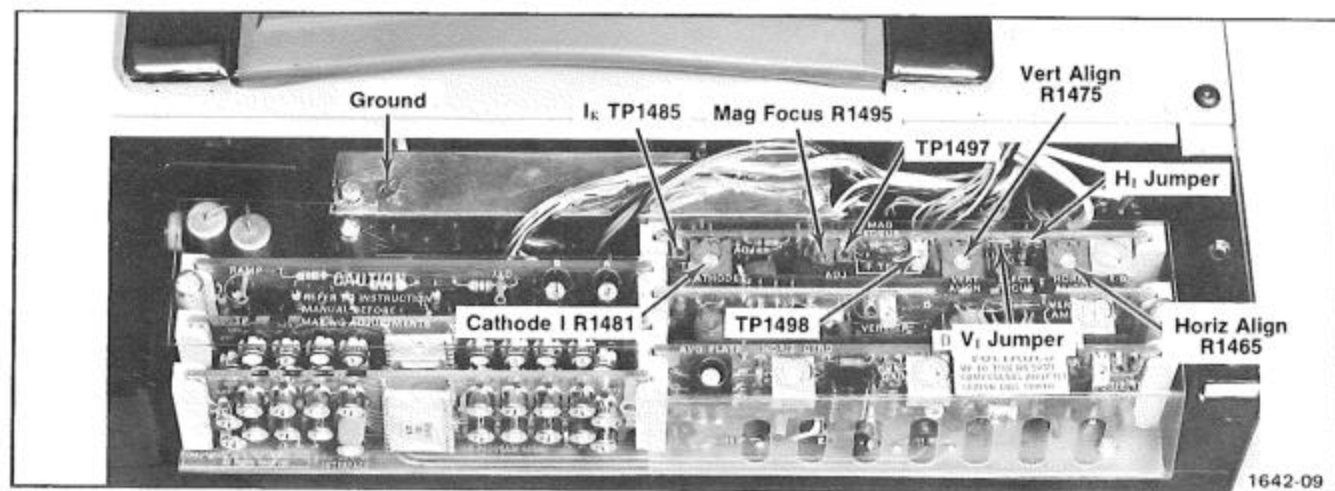

Fig. 5-4. Location of Vidicon Regulator test points and adjustments.
- c. Set the DVM to measure dc volts and connect the meter leads to the Mag Focus test points (minus lead to TP1498 and plus lead to TP1497). See Fig. 5-4.
- e. ADJUST—Mag Focus R1495 (see Fig. 5-4) for a meter reading exactly equal to the recommended focusing current.
- g. Connect the plus meter lead of the DVM to the I_k test point TP1485 and the negative meter lead to ground. See Fig. 5-4.
i. ADJUST—Cathode Current R1481 (see Fig. 5-4) for a meter reading exactly equal to the recommended cathode current.
k. Remove the H_1 jumper (see Fig. 5-4) from the Vidicon Regulator Board. Set up the DVM to measure dc current and install the meter leads in the empty H_1 connectors (plus meter lead to the + connector and the minus meter lead to the - connector).
m. ADJUST—Horiz Align R1465 (see Fig. 5-4) for a meter reading exactly equal to the listed value of horizontal alignment current (I_H) for the vidicon installed in the J20.
p. ADJUST—Vert Align R1475 (see Fig. 5-4) for a meter reading exactly equal to the listed value of vertical alignment current (V_1) for the vidicon installed in the J20.